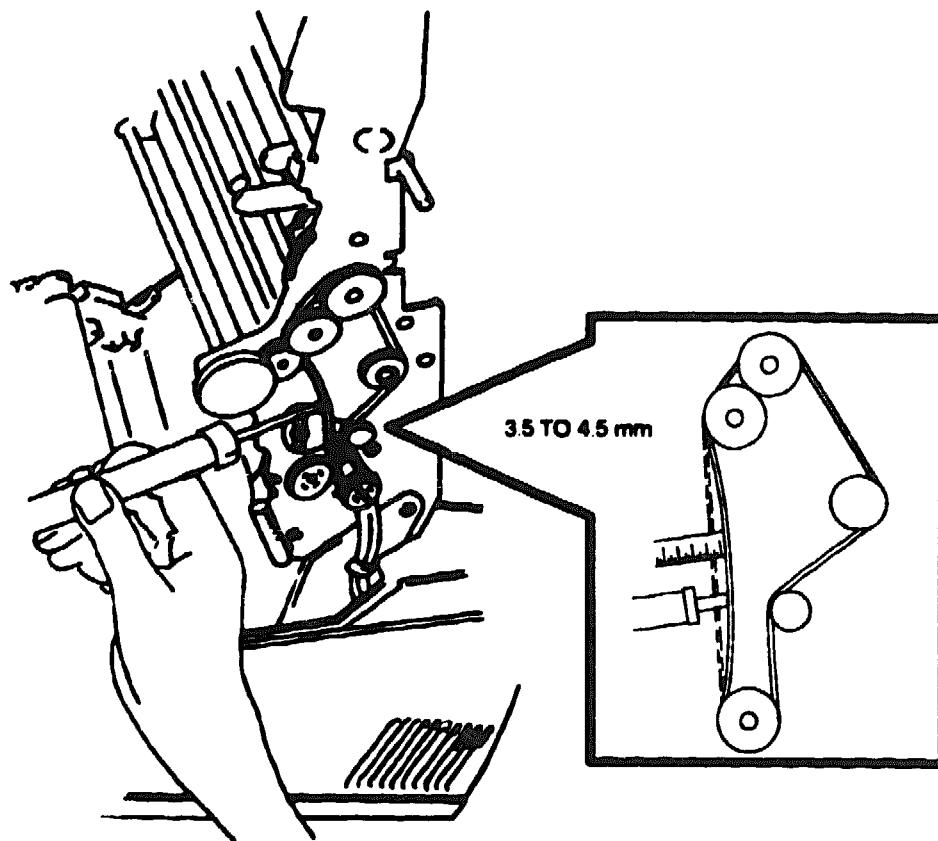

Figure 4-20 Timing Belt B170MXL3.2 Tension Measurement
3. Using a tension gauge, apply a force of 100 g on the middle of the belt between the idler gear and idler pulley (see Figure 4-20). Then, using a small, metric ruler, check the flexure value of the pressed belt. The standard flexure value is 3.5 to 4.5 mm. If the standard measurement is not obtained, proceed as follows.